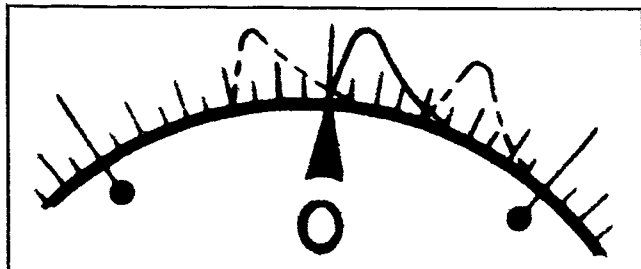

Figure 5-5. Indicator I-152-A — Reference Pulse Adjustment
(1) Adjust "REC. GAIN" control R201 until a pulse appears on the circle being traced. (To secure a pulse it may be necessary to insert a two-or three-inch piece of wire in each of the antenna sockets on the receiver and transmitter unit.) This pulse should be of average height, approximately $\frac{1}{4}$ inch, as used in actual service.
(2) Rotate the "ZERO ADJ." knob (part of T202), located on the front panel of the indicator, to check the range over which the reference pulse may be moved. The normal altitude range over which the pulse may be moved is approximately ± 200 feet, as measured on either side of zero on the scale, before excessive size changes occur in the circle trace itself. (See fig. 5-5.)
(3) Should excessive size in the circle trace occur at one end or the other of the zero adjustment, re-adjust the primary circle core adjustment, top of core stud of T203, until this effect is a minimum when covering a range of ± 200 feet with the zero adjustment of R202. Detuning of the primary of T203 to a slight extent is permissible since no effect on performance results.